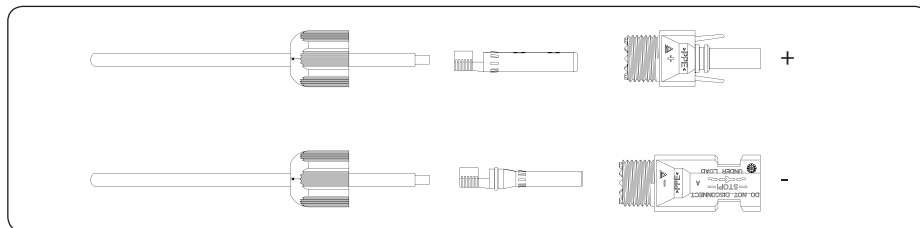

Figure 4-10
3) Disassemble the connector in the accessory bag, as shown in Figure 4-10: